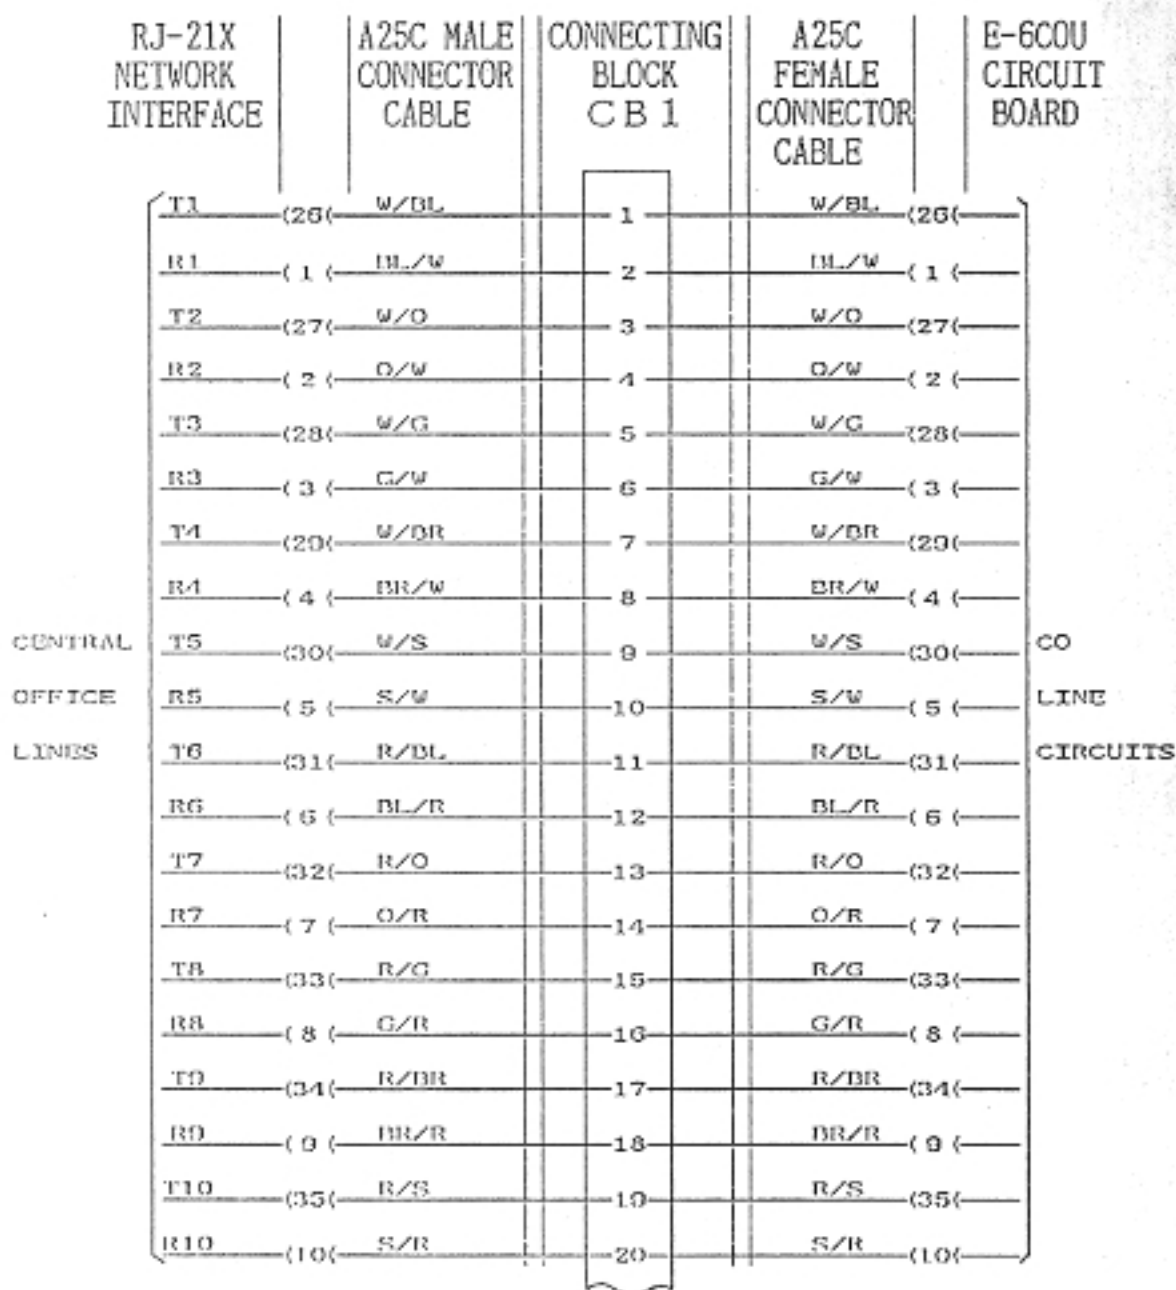

Fig.1-2 Connections for Central Office
(1) Mount the connecting block CBI to the plywood back board between the KSU and RJ-21X jacks.
(2) Run one A25C male connector cable from the RJ-21X jack to the connecting block CBI of step(1).
(3) Terminate the A25C male connector cable of step(2) on connecting block CBI in accordance with Fig.1-2.
(4) Run the A25C female connector cable from the KSU to the connecting block CBI of step(1).
(5) Terminate the A25C female connector cable of step(4) on the connecting block CBI in accordance with Fig.1-2 and Table B.
(6) Plug the A25C male connector cable into RJ-21X jack.
(7) Plug the A25C female connector cable into the connector labeled "CO1-CO10" in the lefthand of the KSU.